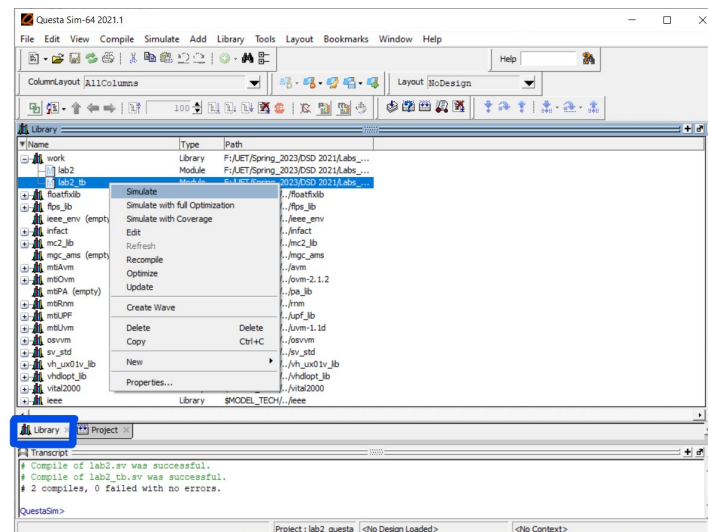

Fig. 3.10: Start Simulation.
7. Then go to *Library* tab. Expand the *work* tab and click the test bench file (in our case lab2_tb). And select *Simulate*. (Fig. 3.10).